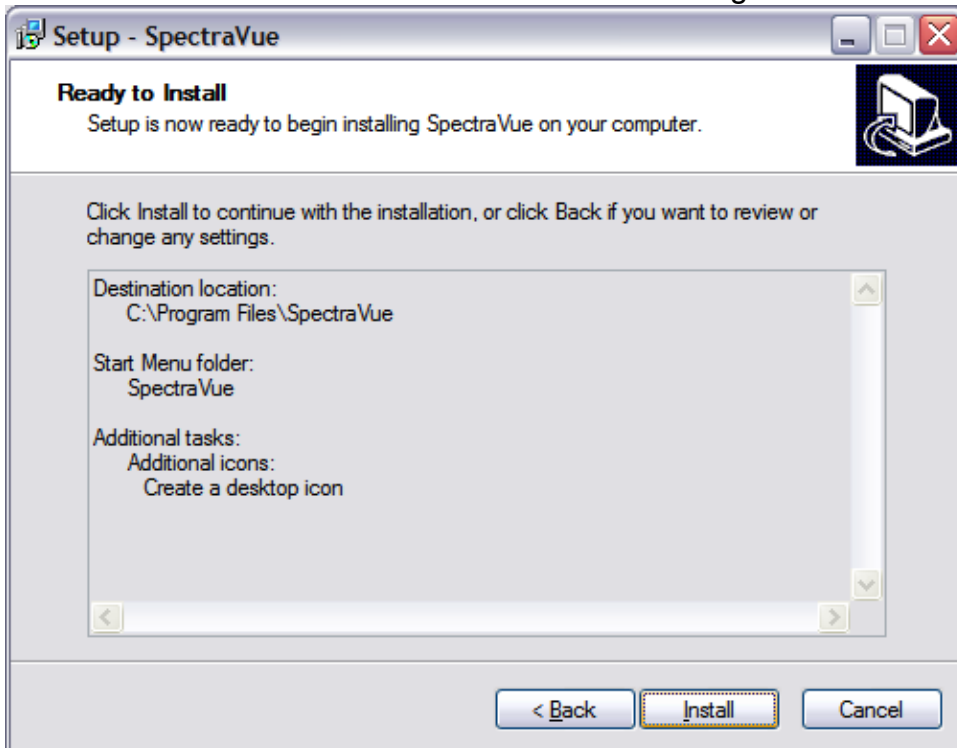

Fig 6: Install the software.
1.6 Click "Install" to install the software as shown in Fig 6.